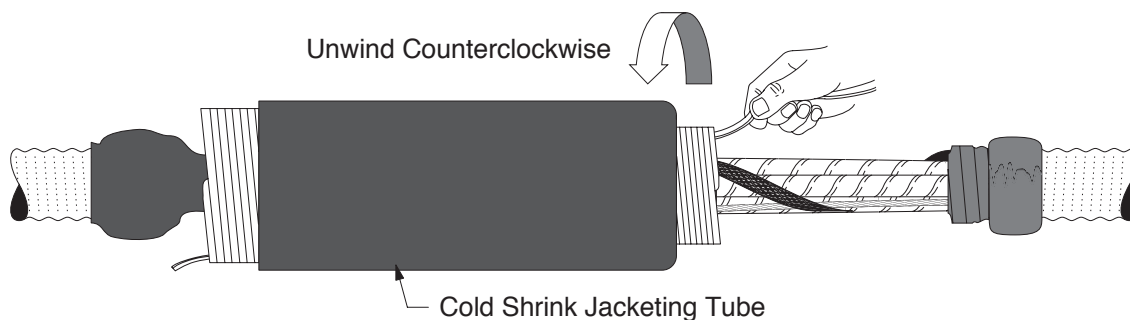

Figure 23
- 3.2 Begin to install the cold shrink jacketing tube by completely covering the rubber mastic, slowly pulling and unwinding the inner core counterclockwise towards the open splice area. The outer core should remain relatively stationary while unwinding the inner core. If the outer core begins to move towards the first mastic seal, gently pull the outer core and jacketing toward the second mastic seal (*Figure 23*).